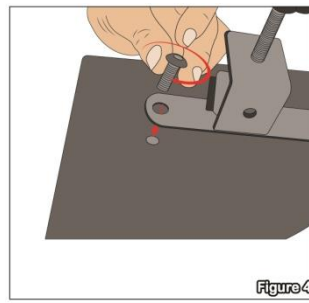

Figure 4
Step 3 – Take the clamp (Part G) and screw it in at the back using M5 Screw (Part F). By this the panel can be mounted to a tripod vertical stand as this panel is heavy. A speaker stand will also work. Then screw in the back knobs to clamp the shield to the vertical stand. (See **Figure 4 and 5**)